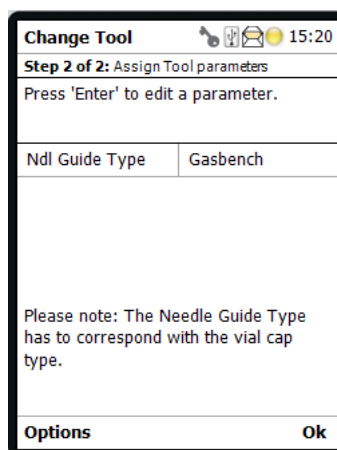

Figure 5-23. GasBench needle guide type
- a. Use the GasBench needle guide type, see Figure 5-23.